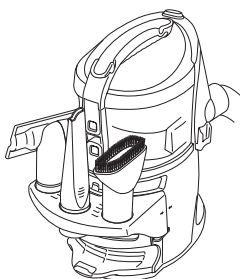

Fig. 17
- 1 Store the dusting brush, upholstery brush, the crevice tool or the power brush on the mounts on the removable tool caddy. (fig. 17)